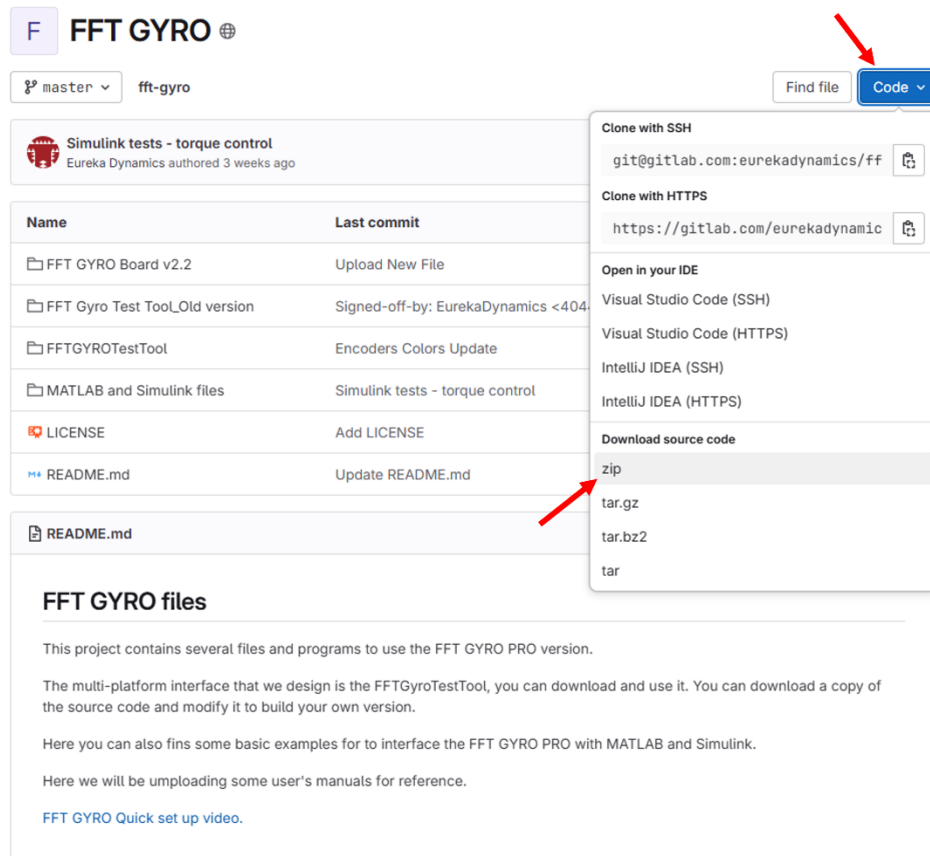

Figure 16. Steps to download the Zip file: Go to the link in GitLab, click on “Code”, then click on “zip”.
1. Download the source code files here. Follow the steps in figure 16.